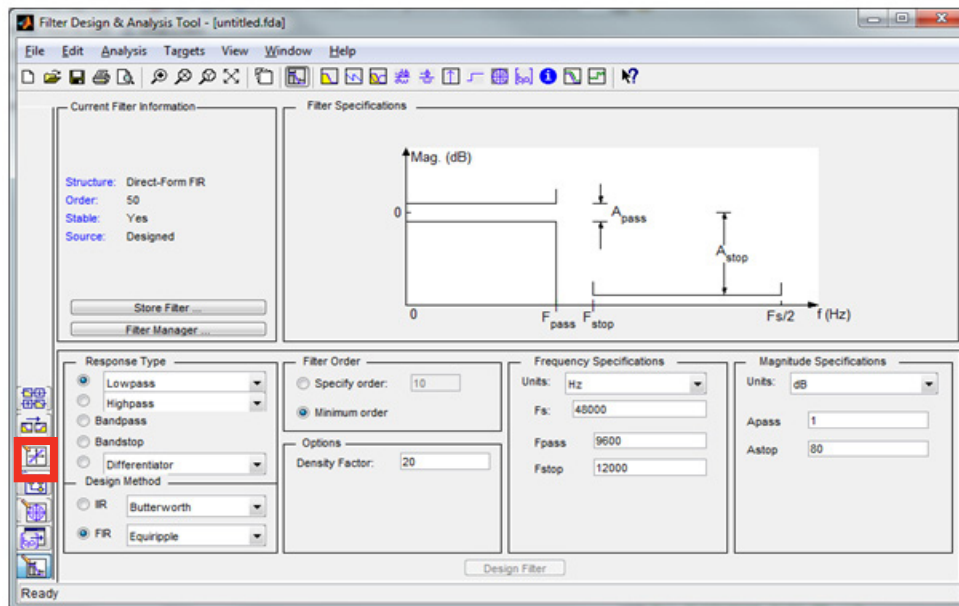

Figure 3. “Set quantization parameter” icon
1. Click on “Set quantization parameter” (Figure 3)